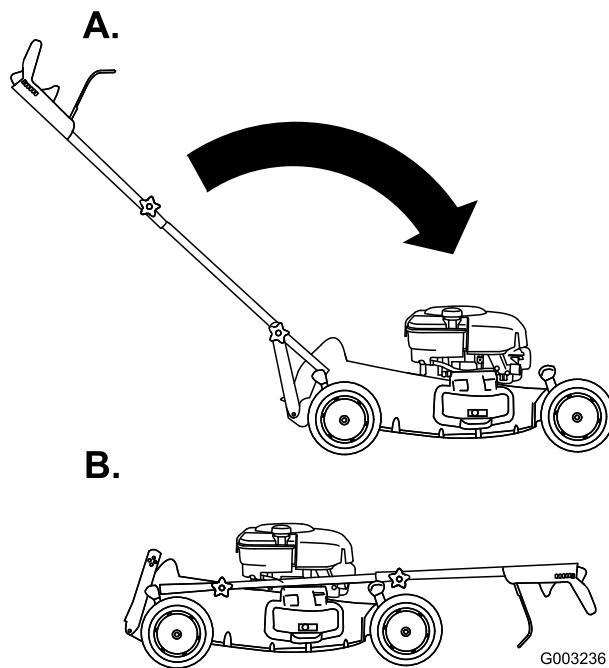

Figure 41
3. Rotate the handle forward (Figure 41).